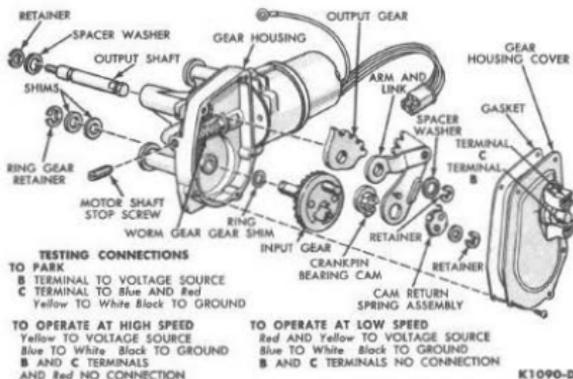

FIG. 93—Two-Speed Electric Wiper Motor
1. Remove the gear housing cover plate and gasket (Fig. 93).